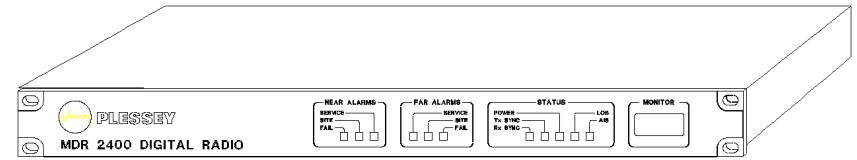
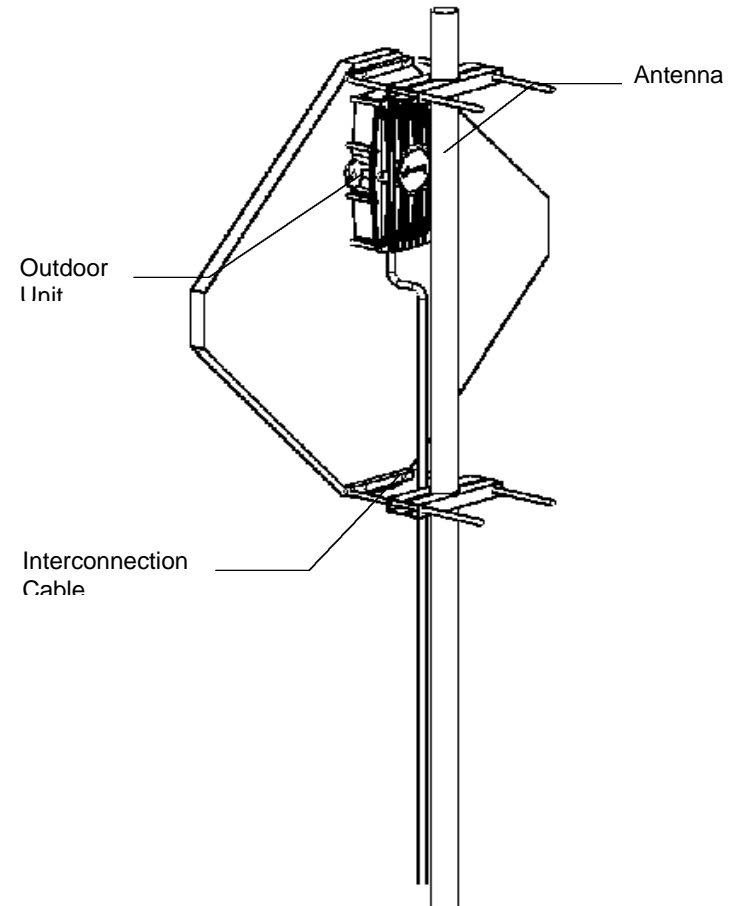
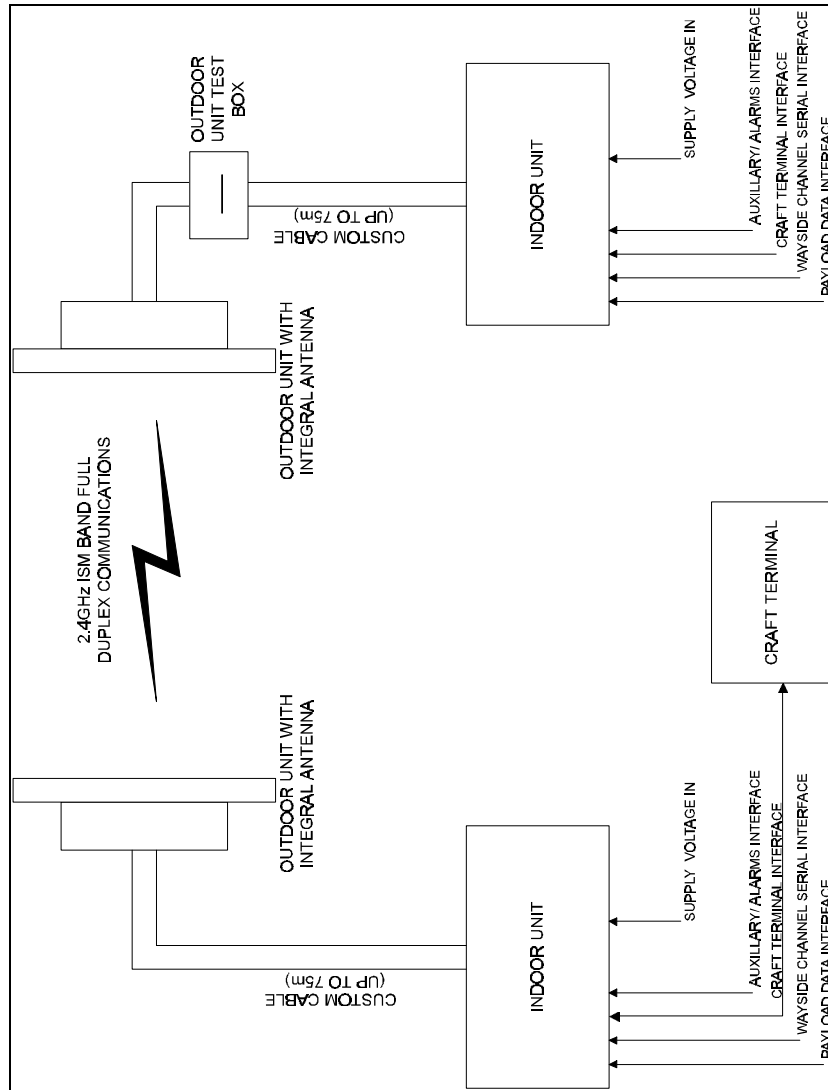

Figure 1. μLink Indoor Unit.
Figure 2. μLink Outdoor Unit and Antenna.
Figure 3. System Overview Block Diagram.
System Overview A μLink digital radio relay link (DRL) consists of at least one complementary pair of μLink stations that may be extended over longer distances by linking further station pairs in a multiple hop configuration. A single μLink station comprises an Indoor Unit (Figure 1), an Outdoor Unit and Antenna (Figure 2). The Indoor Unit (IU) and Outdoor Unit (OU) are interconnected by a custom cable. Figure 3 is a block diagram of an μLink DRL.